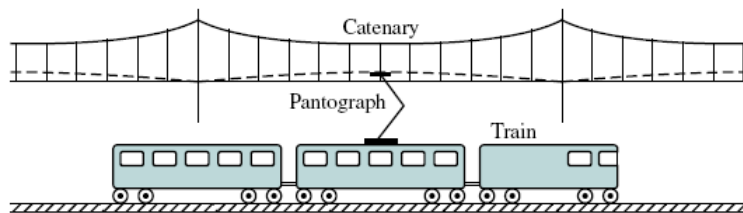

Figure 2
9. For the control system shown in Fig. 2, find the equivalent transfer function from  $U(s)$  to  $Y(s)$ .